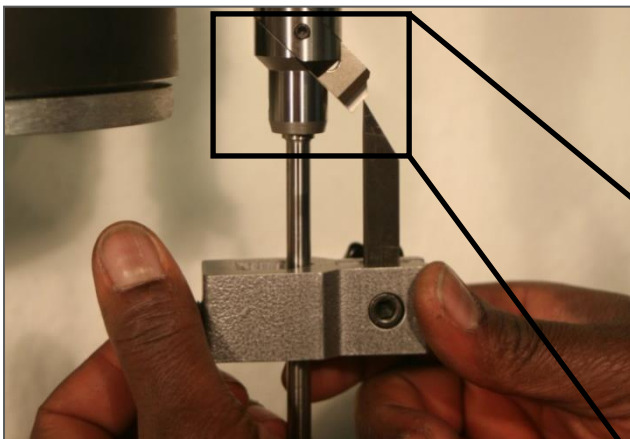

Fig. 15
11. Fit the formtool setting gauge on the pilot and fix the gauge slightly by the knurled head screw. Adjust the formtool in the way that the adjusting tongue will match with the corner (line) of the upper correction angle (Fig. 15). Tighten the formtool in following and remove the formtool setting gauge.